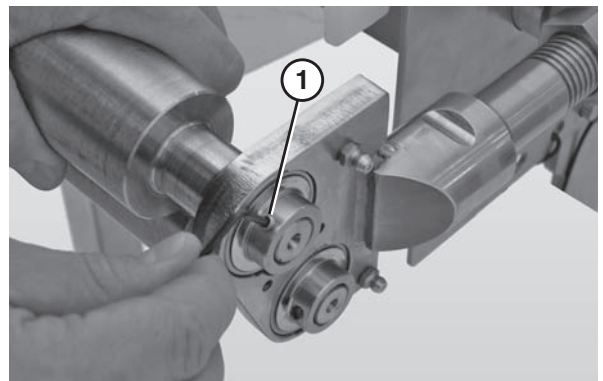

Figure 84
5. Use a 4 mm hex wrench to loosen all the bearing fasteners (**Figure 84, item 1**).